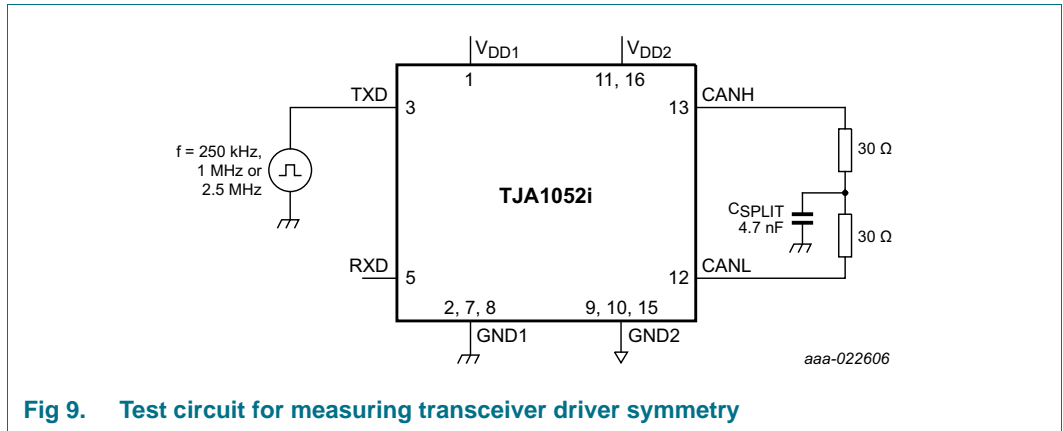

Fig 9. Test circuit for measuring transceiver driver symmetry
- [4] The test circuit used to measure the bus output voltage symmetry (which includes  $C_{\text{SPLIT}}$ ) is shown in Figure 9.